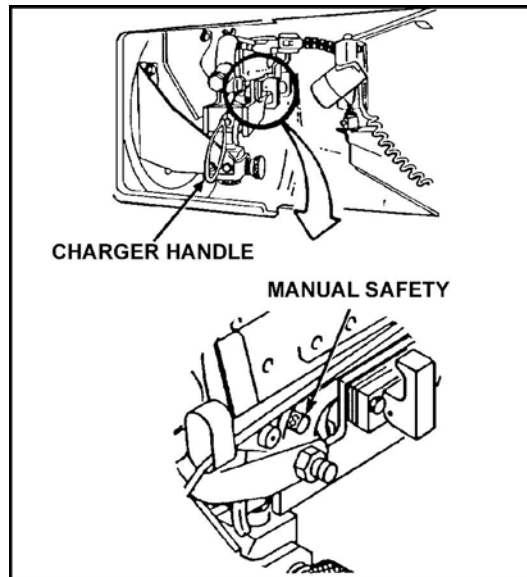

Figure 2. Manual safety.
- c. (BC) Open the machine gun access doors.
- d. (BC) Charge the machine gun.
- e. (BC) Push the manual safety through to "S" (safe position) (Figure 2).